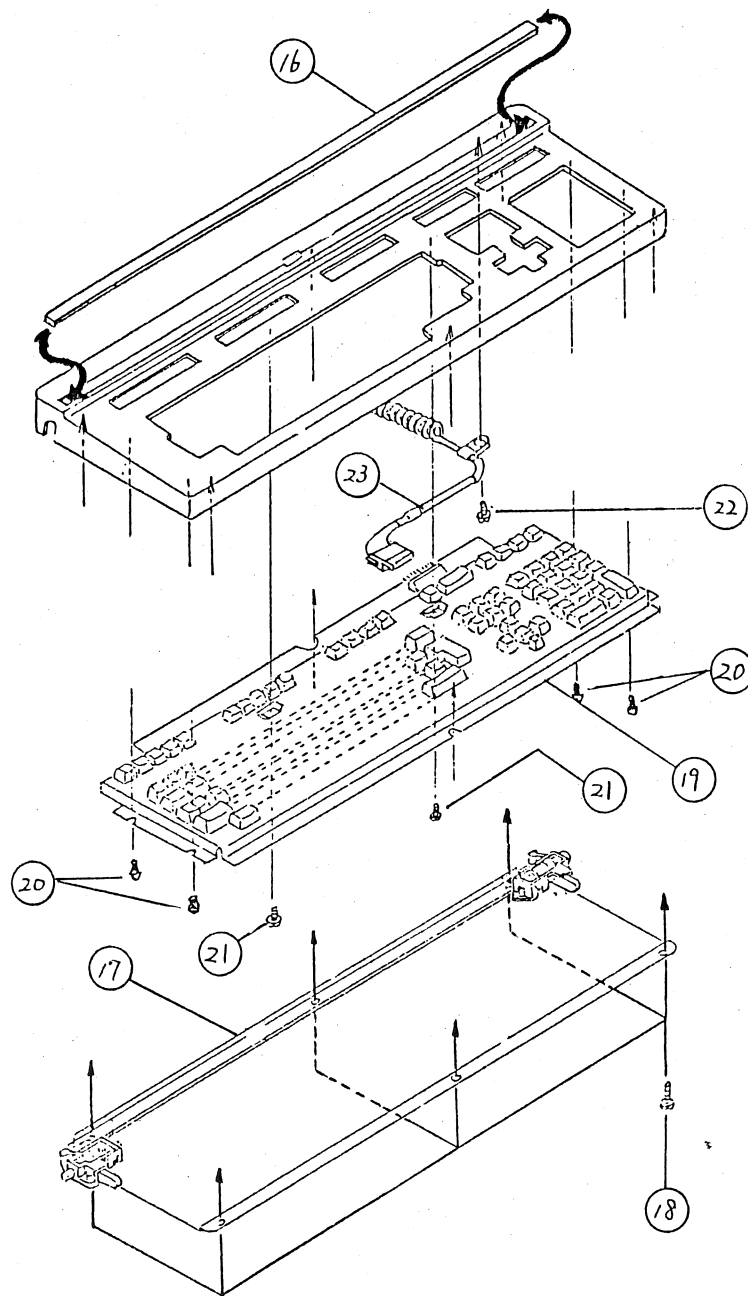

Fig. 6-2-1 Keyboard Unit Disassembly Diagram
Fig. 6-2-1 shows the disassembly diagram of keyboard unit KB-920.
- (1) Cover the solid stand surface with a soft cloth and place the keyboard unit quietly with the keytop surface down.
- (2) Remove the six tapping screws (No. 18) on the keyboard bottom. (See Fig. 6-2-1.)
- (3) Pull up the bottom panel.